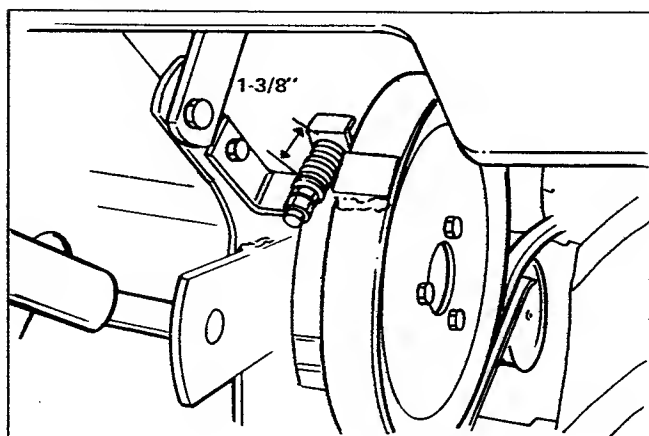

Figure 26. Pulley Brake Adjustment
1. The pulley brake return spring (figure 26) should be compressed enough so that it measures 1 3/8 inches with the clutch-brake pedal released (up). If it does not, loosen the adjusting nut and move it to obtain the proper measurement.